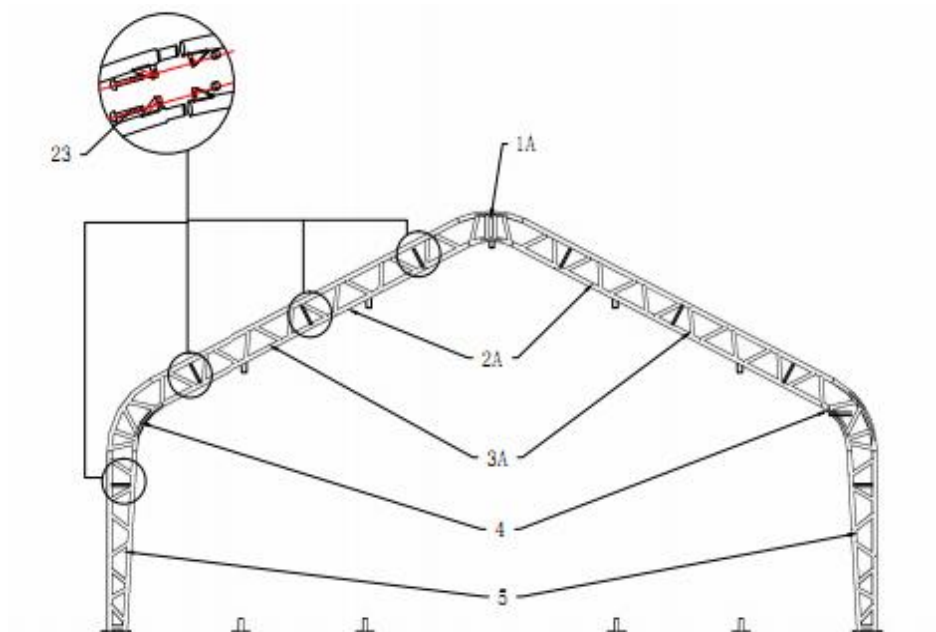

Figure 4
1. Figure 4 shows to connect the Top roof tube (No.1A), Roof curving tube (No.2A), Roof curving tube at shoulder for both doors (No.3A), Sidewall tube (No.4) and Standing leg (No.5) with Bolt M12x30mm (No.23), then put the arch into tube of the Base flange by hoist.